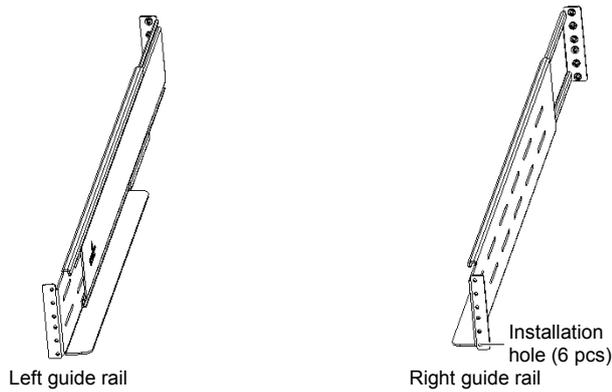

Figure 2-7 Appearance of the guide rail
1) Take out the guide rails (one left guide rail and one right guide rail), guide rail screws and panel screws from the package, distinguish the left guide rail and right guide rail according to Figure 2-7, and confirm its retractable function respectively.
2. Any end of one guide rail has six installation holes (see Figure 2-7), do not use the two installation holes in the middle when fixing the guide rail. It is recommended to use the top and bottom installation hole (from top to bottom, installation hole 1 and installation hole 6).